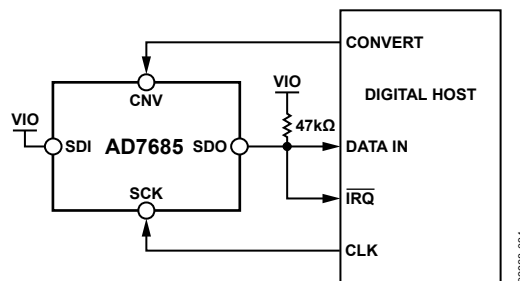
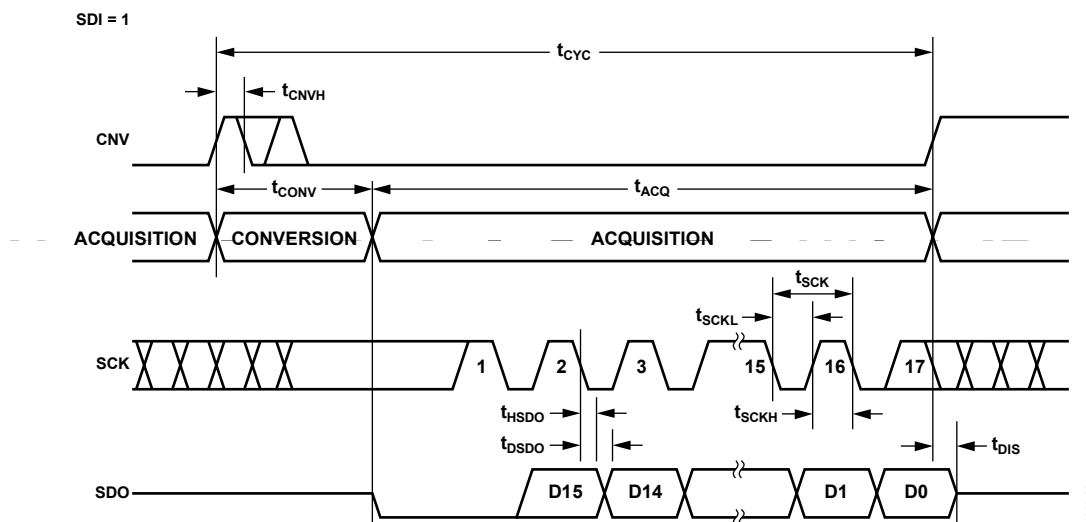
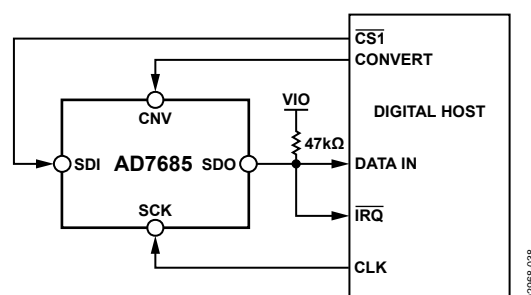
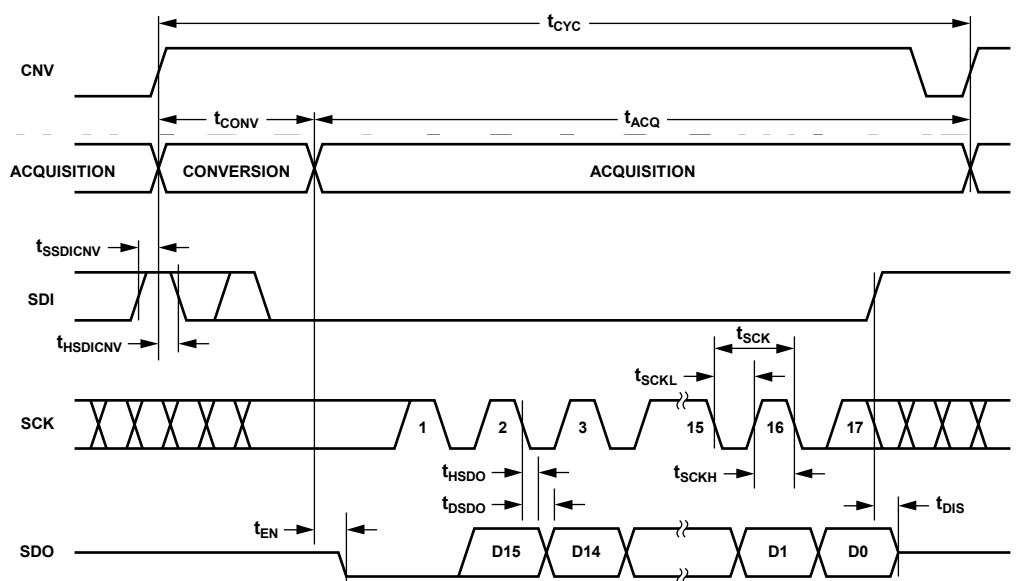

Figure 36. $\overline{\text{CS}}$ Mode 3-Wire with BUSY Indicator Connection Diagram (SDI High)
Figure 37. $\overline{\text{CS}}$ Mode 3-Wire with BUSY Indicator Serial Interface Timing (SDI High)
Figure 40. $\overline{\text{CS}}$ Mode 4-Wire with BUSY Indicator Connection Diagram
Figure 41. $\overline{\text{CS}}$ Mode 4-Wire with BUSY Indicator Serial Interface Timing
- In the $\overline{\text{CS}}$ mode, if CNV or SDI is low when the ADC conversion ends (see Figure 37 and Figure 41).
The connection diagram is shown in Figure 36, and the corresponding timing is given in Figure 37.
The connection diagram is shown in Figure 40, and the corresponding timing is given in Figure 41.